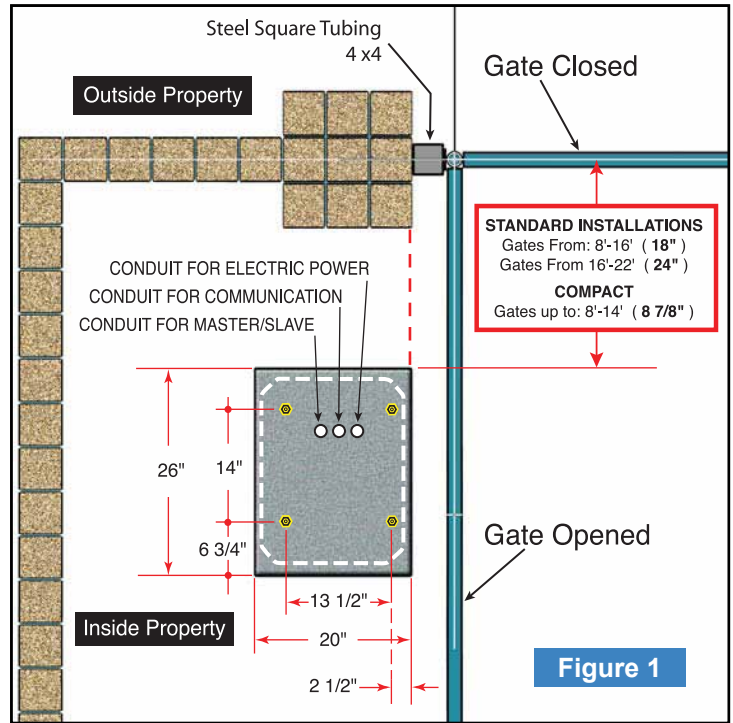

Figure 1
1. Construct form for mounting pad according to dimensions shown in Figure 1 and 2.